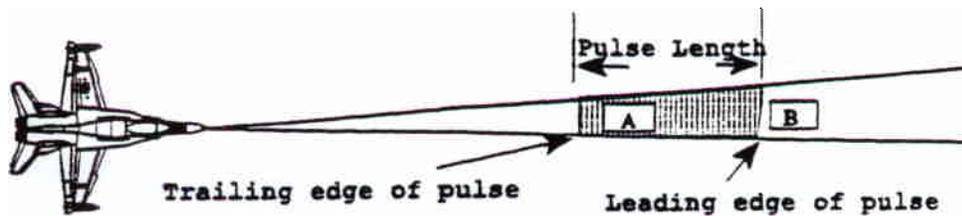

Figure 8
Another error evident in the scope presentation is Pulse Length Error (PLE). In order to understand Pulse Length Error (PLE), consider the following occurrences: (1) The leading edge of the pulse hits the near side of the building B in Figure 8. During the time that the pulse was traveling to B, echoes from A were returning back to the radar.